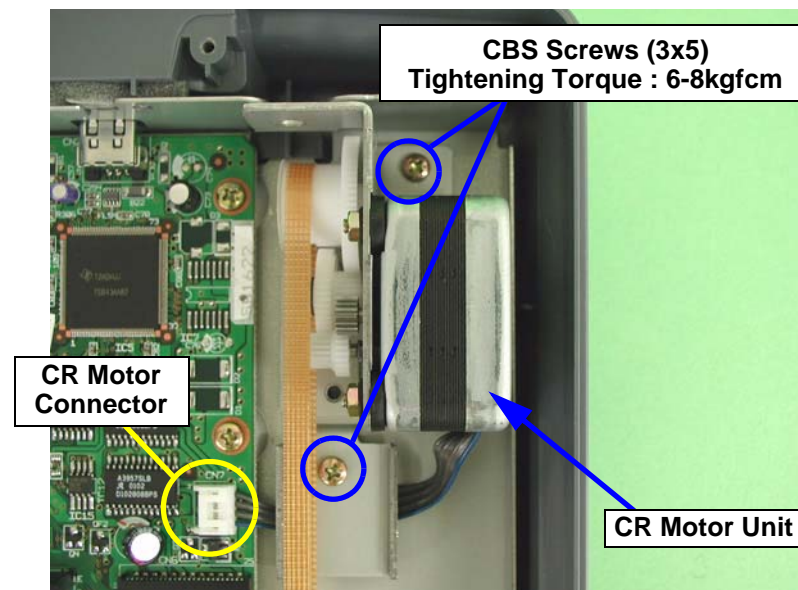

Figure 4-24. CR Motor Removal (1)
5. Remove the two screws (CBS, M3x5) that are securing the CR motor unit. (See Figure 4-24)